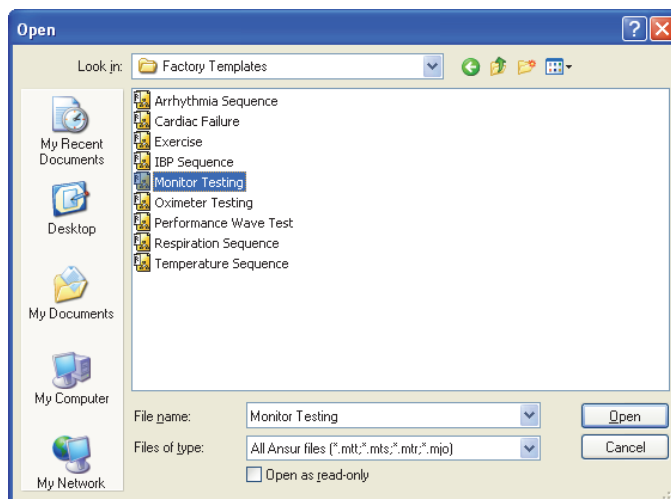

Figure 3-19. ProSim 8 Plug-In Templates
4. Double-click **Factory Templates** directory to open the dialog box shown in Figure 3-19.